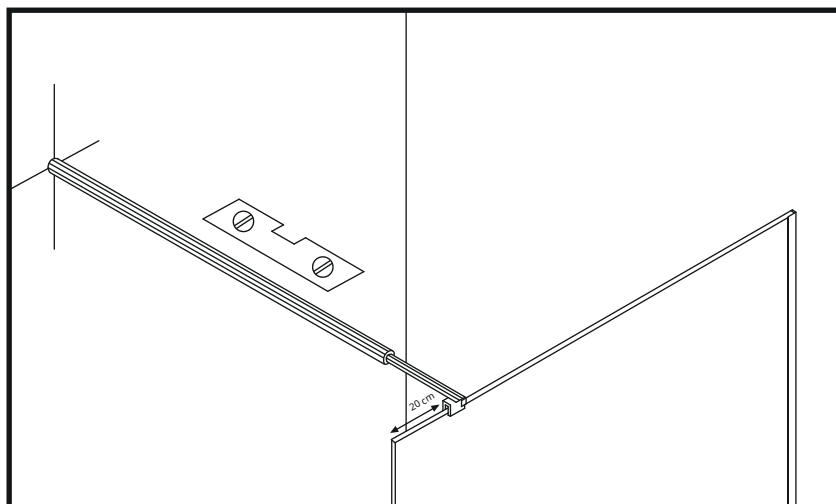
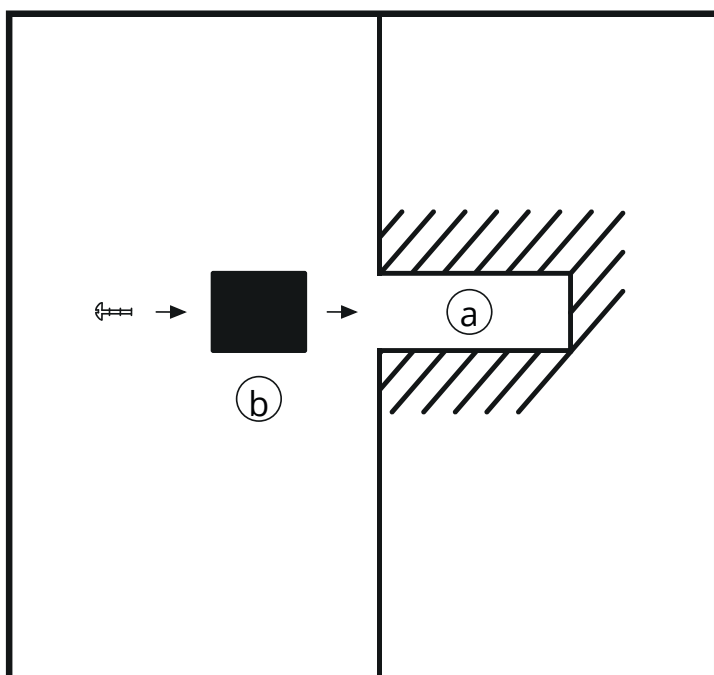
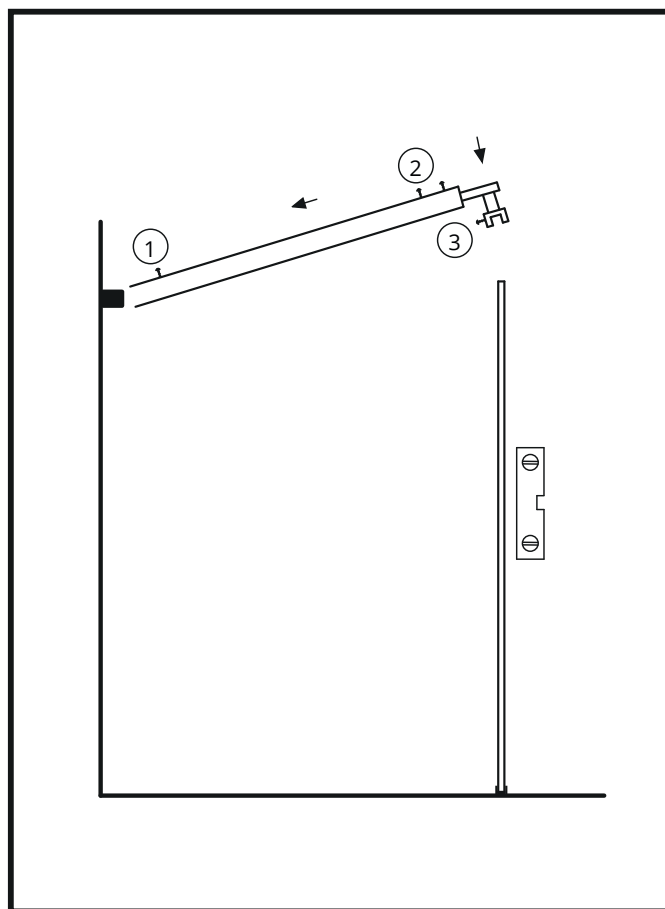

Figure 8
Figure 9
Figure 10
17. Install the telescopic tube at a 90-degree angle to the wall. The glass clamp must be positioned no more than 20 cm from the corner of the glass. (Figure 8)
18. Install the gaskets included with the tube between the telescopic tube mounting clamp (3) (the part that attaches to the glass) to prevent the glass from coming into contact with the metal. (Figure 10)
19. Carefully place the telescopic tube on the glass, in the previously measured and planned location. Make sure that the telescopic tube is vertically level. (Figure 8)
20. Make a mark on the wall (Figure 8) for drilling the mounting hole (a) (Figure 9) and remove the telescopic tube.
21. Drill the hole for the dowel (a) at the marked location, remove any dust from the hole, and insert the dowel. (Figure 9)
22. Unscrew the screw (1) on the telescopic tube (see Figure 10) and remove the wall-mounted part (b) (see Figure 9).
23. Insert part (b) into the previously drilled hole (a) in the wall and secure it with a screw. (Figure 9)
24. Take the telescopic tube and carefully install the wall mount (b) inside the telescopic tube and rest the other end (3) on the planned location, on the glass. (Figure 10)
25. Tighten and secure screw (1). NB! The mounting point must be oriented upwards!
26. Secure the telescopic mount to the glass with screw (3). NB! It is important that you have previously installed the gaskets included in the set between part (3) Metal parts must not come into contact with the glass, as this may cause the glass to break.
27. Adjust the glass using a level and secure the telescopic tube with screws (2), with their heads facing upwards.